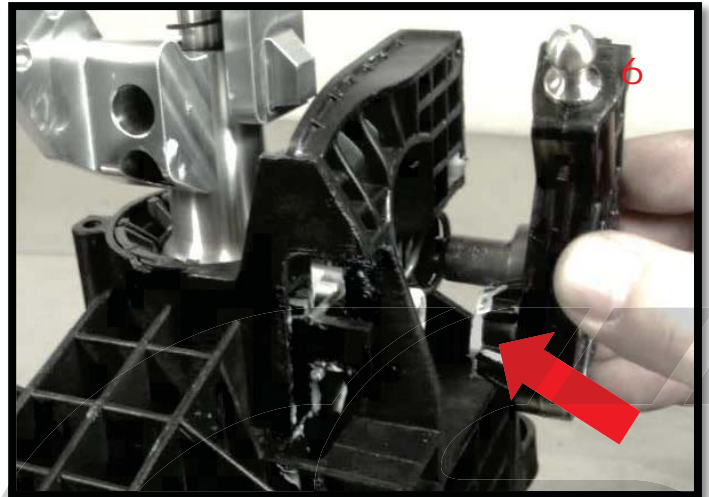

Figure 3e
- f) **Push the Side Action Actuator (6) back into the shifter housing.** Line up the Ball Stud Plastic Cap with the hole in the actuator (red arrow in Figure 3e).